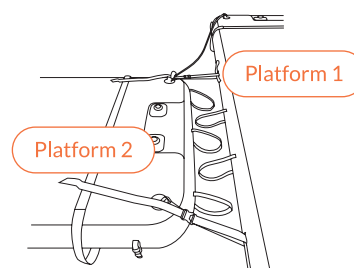

Fig 63 – Secure connection straps
6. Then feed the connection straps through the horizontal handles (either side of the Air Toggle connection) of Platform one. It is important to do this before you inflate the Air Toggle (Fig 63).